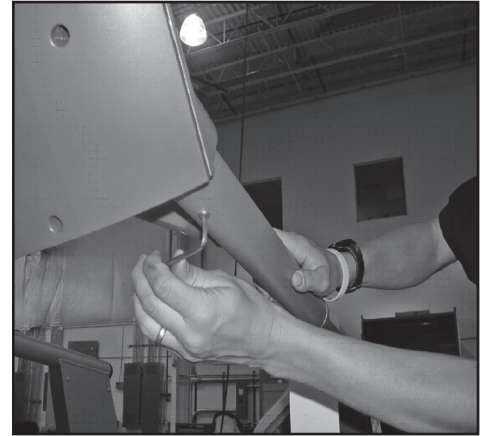

Figure 1-1
- 1-2:** Remove Button head screws (P/N- SM24162) on underside of the handles on each side (see Figure 1-1).